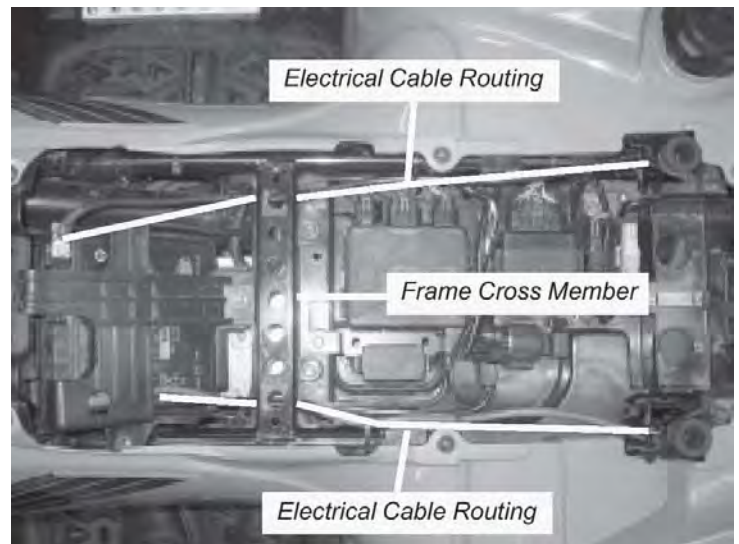

Figure 5 Battery to Contactor Cable Routing
3. You can also route the battery cables to the contactor as shown in “Figure 5”